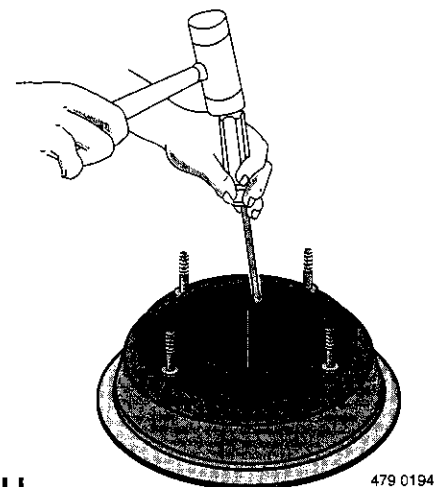

Figure 11
4. Place back half of pump on flat surface and tap out ceramic seat. See Figure 11.